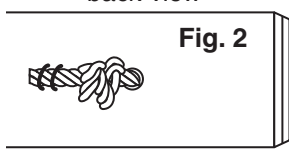

Fig. 3
**Note:** If you do not have a bottom board, rope must be anchored to ground, using one Playset Anchor PS 7690. Tie rope to Quick-Link Connector and place through top of anchor. Tighten securely with an adjustable wrench. (Fig. 3)